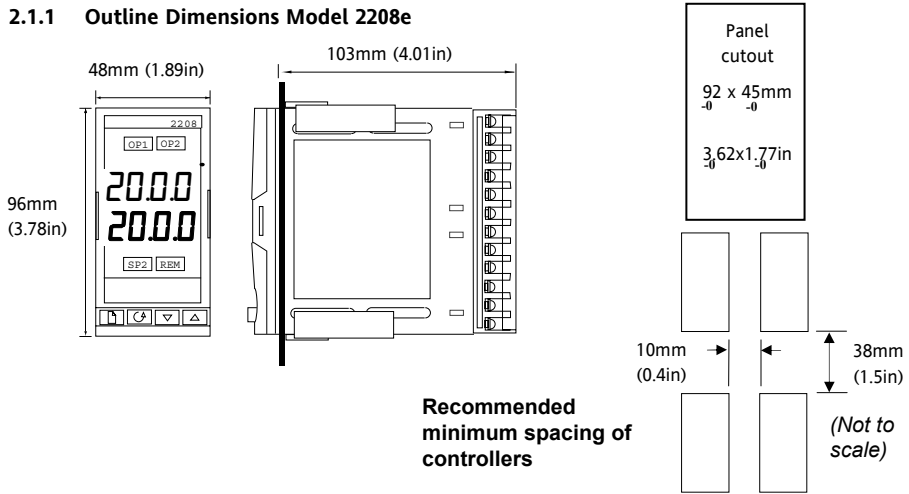

Figure 2-3: Outline dimensions Model 2208e controller
The controller plugs into a plastic sleeve, which in turn fits into the panel cut-out shown in Figures 2-3 and 2-4.
1. Cut the panel to the relevant hole size shown in Figure 2-3 and 2.4.